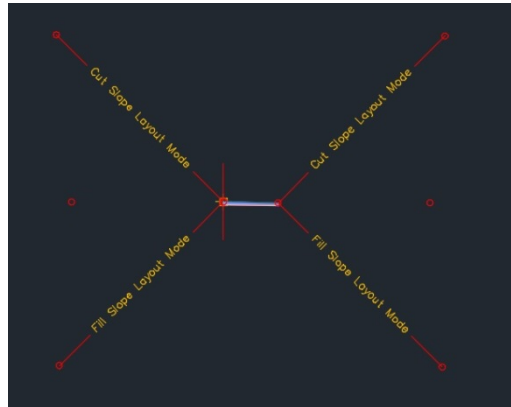

Fig. 8. Assembly AL2-AS1.
8. Make an assembly called AL2-AS1, composed of (see fig. 8):